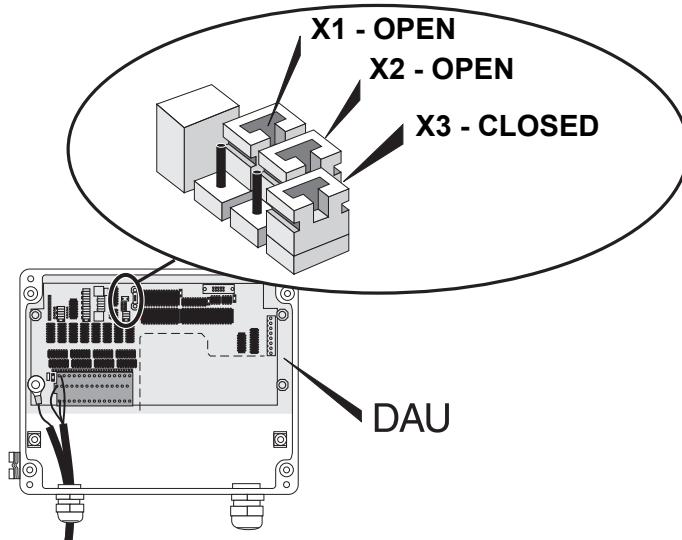

Figure 4-26. Jumper settings for temperature range -50 to 125°C
- 2 Set the **jumpers X1, X2 and X3** on the DAU's circuit board in the correct positions for the desired measurement range. The jumpers are set according to Table 4-3. See also Figure 4-26. The default setting is from -50°C to 125°C for the Pt 100 sensor.